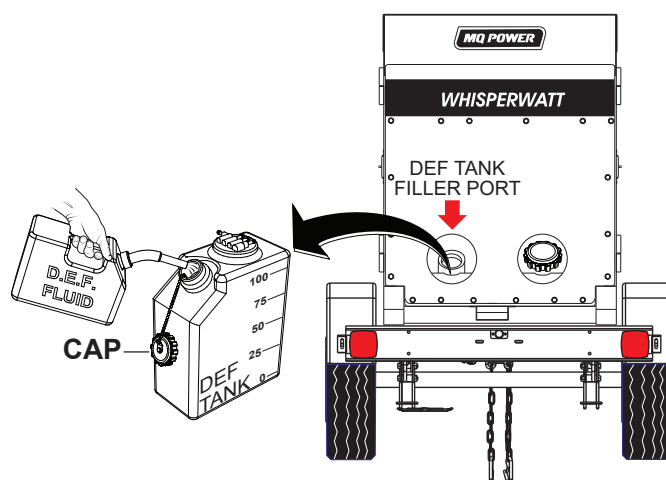

Figure 38. DEF Tank Filling
2. Remove the filler cap from the DEF tank (Figure 38).